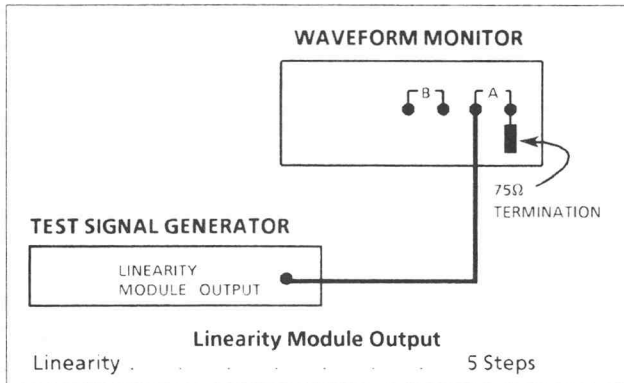

Fig. 4-15. Setup for checking source line time non-linearity.
- a. Connect and set the test equipment as shown in Fig. 4-15.